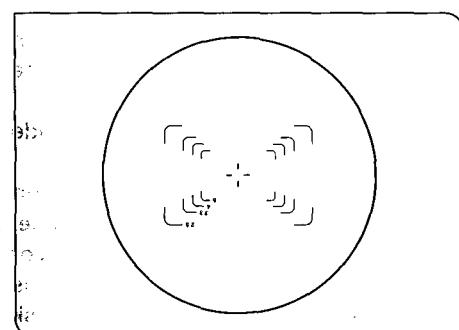

Fig. 107
- The mask indicates the areas covered when using a 35mm film, and the numerals next to the lines correspond to the magnification of the respective PE photo eyepiece. (Fig. 107)
2. The photo mask has a reticle with four masks and a double cross-line, and the focus is for all purposes the same for the reticle and the camera film plane. The masks indicate the areas covered, and the numerals next to the masks correspond to the magnification of the photo eyepiece. (Fig. 107)